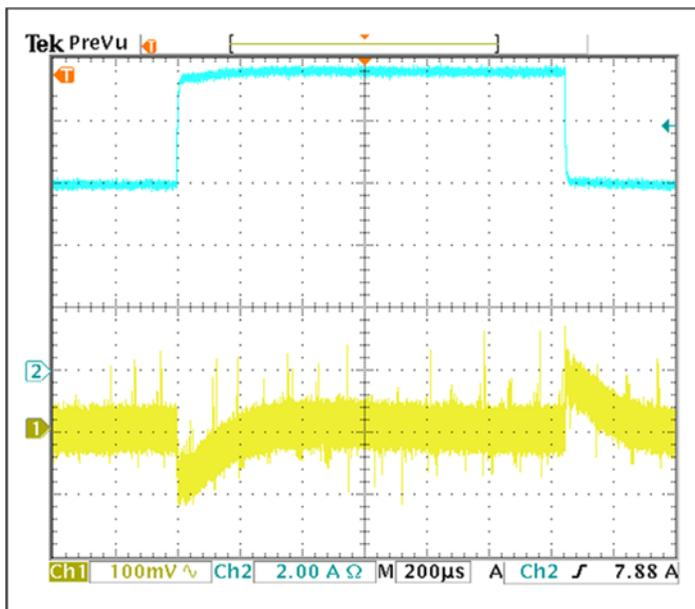

Figure 5. Transient response when load steps from 6A to 10A.
**Figure 5** shows the load transient response when the load is stepped from 6A to 10A, and then dropped back to 6A again. The transient voltage is about 120mV. The input is 24V.